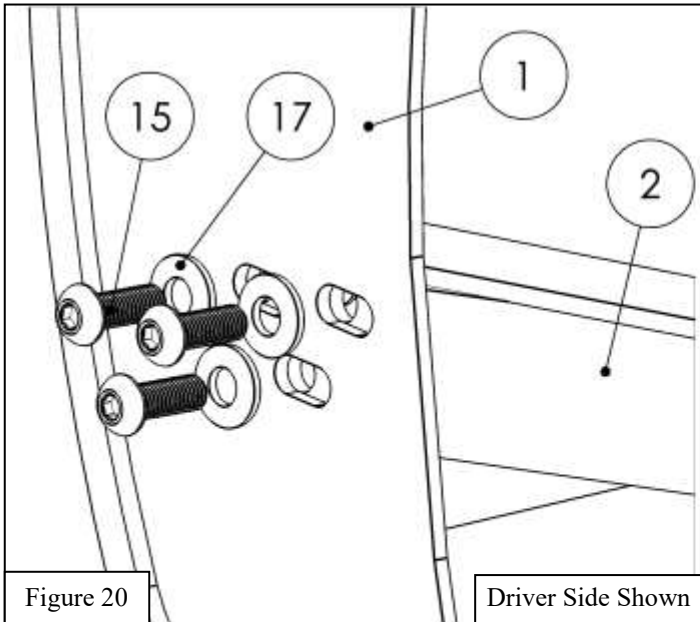

Figure 20
23. Use the supplied M10 (Items 12-14) and M12 Hardware (Items 15-17) to secure the grille guard center to the previously installed mounting brackets. See **Figures 20 through 22** for reference.